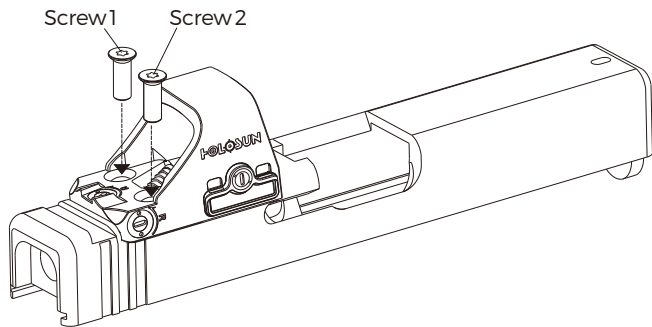

Fig 6
2. Use either the included screws or screws supplied with your slide or from your gunsmith and tighten to 15 in/lbs using a non-permanent (medium/blue) thread locker. (See Fig 6)